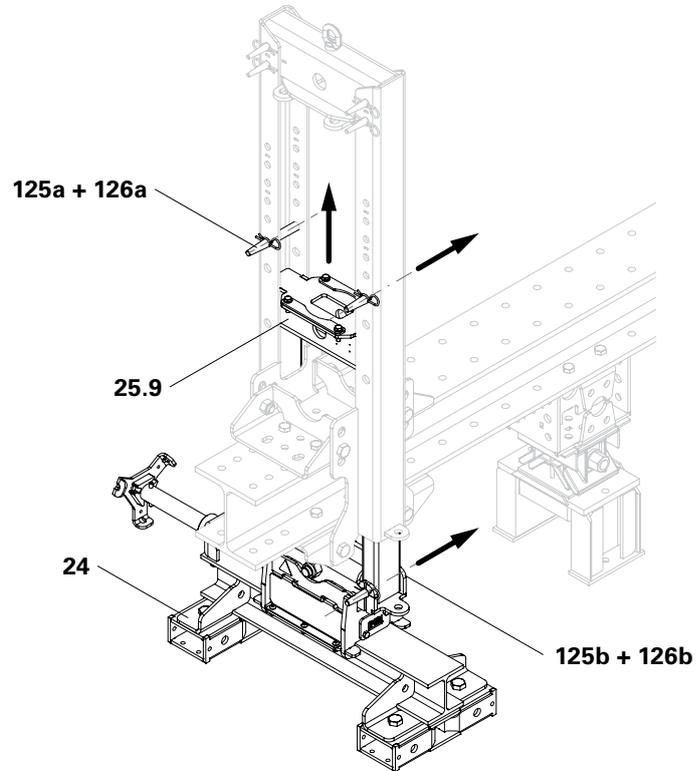

Fig. G2.01
- (Fig. G2.01 + G2.02)
5. Place the Hinge Slides (24) in the available transport container.